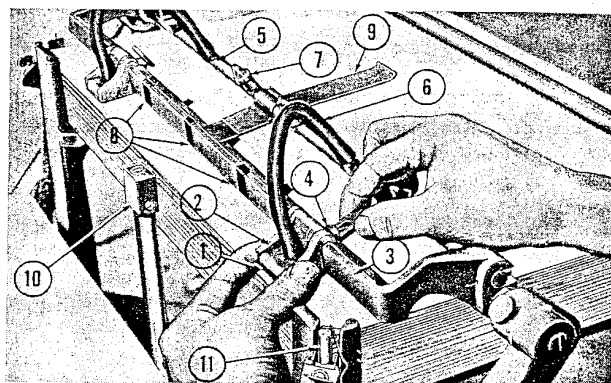

Figure 15—Positioning Separator Shoes
(4) HOW TO SELECT, INSERT AND POSITION SEPARATOR SHOES. (See Figure 15)—The feeder separator shoes (1) supplied with the press are numbered 1A, 2A and 3C and fit into common holders (2). The shoes to be selected and used for a job depend upon the weight and porosity of the stock. Generally the stock best handled by each type of shoe is as follows:
After front and rear feeder corner pile guides have been set, insert proper shoes for the stock to be run in shoe holders. Position shoe holders, (2) figure 15, along separator frame (3) approximately one inch in from the sides of stock. Be sure that shoe holders are locked to separator frame. Attach shoe hoses to nearest nipples on air tube, and put plugs over the nipples not to be used.
(5) SEPARATOR FRAME SHEET GUARDS AND FEEDER PAPER GUARD.—The three separator frame sheet guards, (8) figure 15, which serve to assure positive control of the sheets onto the transfer table, may be shifted along the separator frame to accommodate different sizes of sheets.
The feeder paper guard, (9) figure 15, which clips to the separator frame air tube, need only be used when running large sized sheets. This guard serves to prevent the tail end of sheet from folding ahead after sheet is deposited on transfer table.
(6) HOW TO ADJUST FEEDER BLOWER NOZZLE AND JETS.—Air blast is fed through the feeder blower nozzle, (10) figure 15, to fluff through and separate the top sheets, and through the jets, (11) figure 15, located in the front pile guides, to